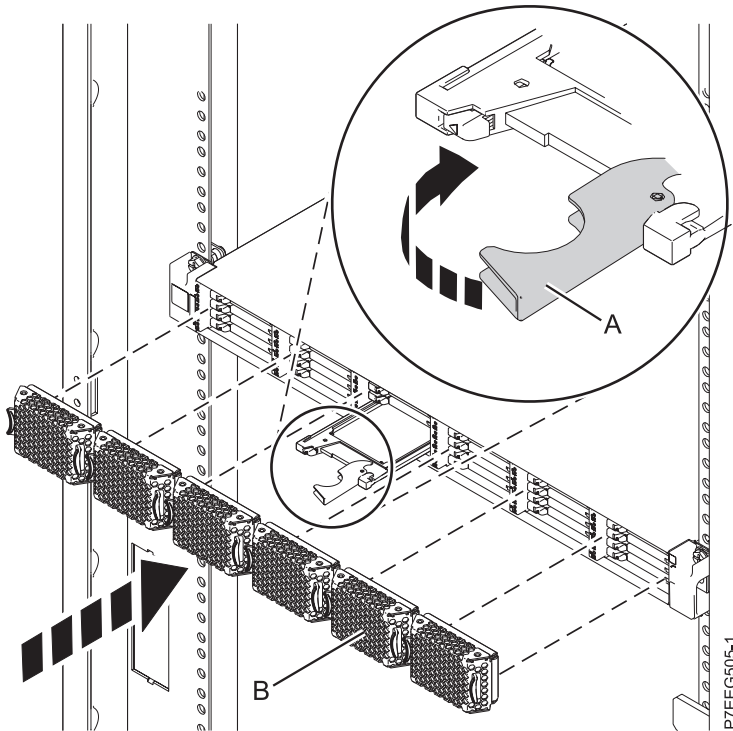

Figure 36. Replacing a solid-state drive in the EDR1 PCIe storage enclosure.
4. When the solid-state drive identify LED turns on solid, slide the solid-state drive all the way into the EDR1 PCIe storage enclosure until it is fully seated. Then rotate the handle **(A)** to the locked position. See Figure 36 on page 58.